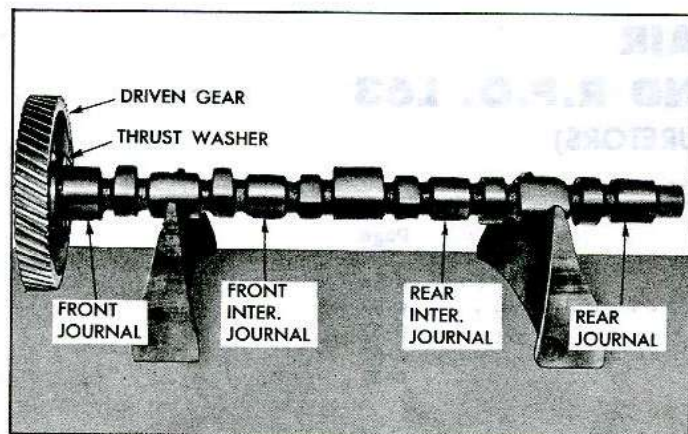

Fig. 125—Checking Camshaft Alignment
2. Check camshaft alignment. The best method is by use of "V" blocks and a dial indicator. The dial indicator will indicate the exact amount the camshaft is out of true. If it is out more than .002" dial indicator reading, the camshaft should be replaced (fig. 125).